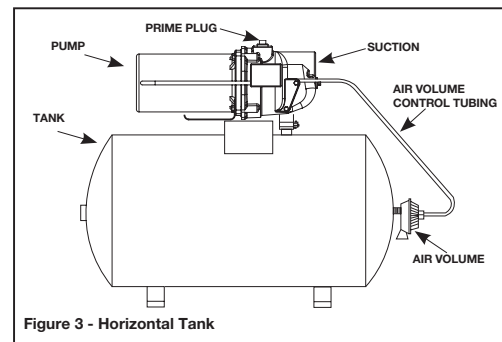

Figure 3 - Horizontal Tank
- Connect the copper tube from the air volume control to the uppermost 1/8" NPT opening on the side of pump. Be sure the connections are tight. Leaking can cause the pump not to prime (Figure 3).
1. Remove prime plug (Figure 3).